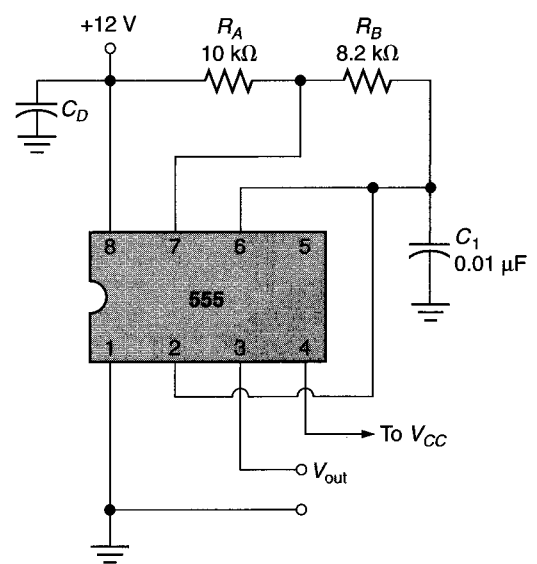

FIGURE 19.66
33. Calculate the operating frequency, duty cycle, and pulse-width values for the free-running multivibrator in Figure 19.66.
35. The value of  $R_B$  in Figure 19.66 is increased to  $10 \text{ k}\Omega$ . Recalculate the operating frequency, duty cycle, and pulse-width values for the circuit.